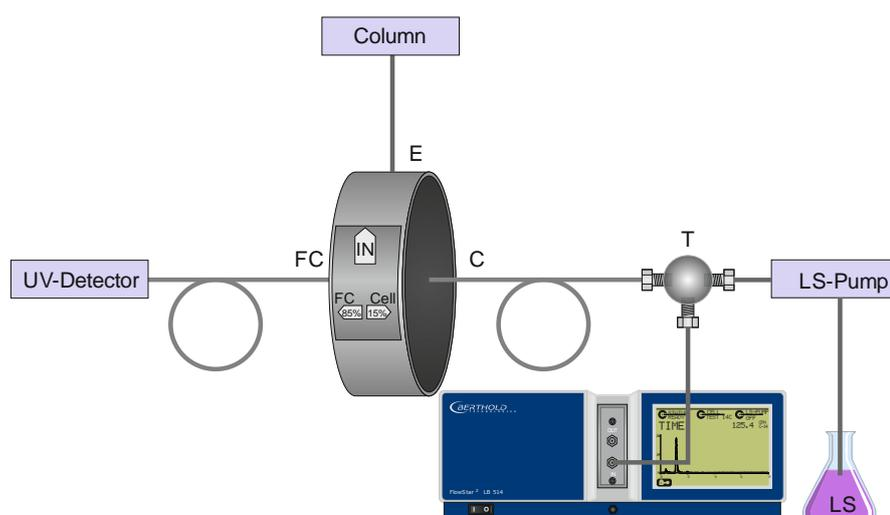

Figure 12: Configuration with subsequently connected UV detector
When setting up the configuration, please check if the connected detector (UV, IR, fluorescence, etc.) is capable of withstanding the backpressure generated. If this is not the case, connect the detector after the **AS-xx**, i.e. between **AS-xx** (FC output) and fraction collector (FC) (see Figure 12).